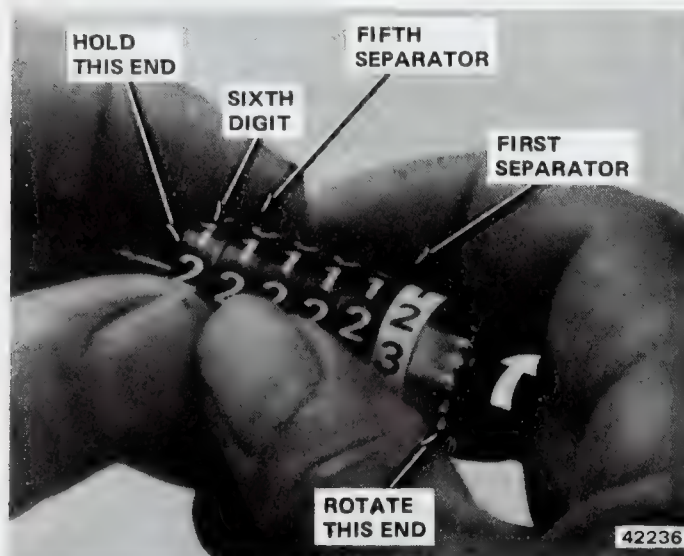

Fig. 3C-32 Advancing Odometer Reading (For Replacement Only)
- (1) Hold fifth separator as shown in figure 3C-31.
- (2) Rotate first five numerals (five on the right side), in their normal direction until the desired sixth digit is obtained.
- (3) When the desired sixth digit is obtained, align the fourth separator with the fifth separator.
- (4) Rotate the first four numerals (four on right) repeating the process until the desired fifth digit is obtained. Repeat the process with the remaining digits to indicate desired mileage.